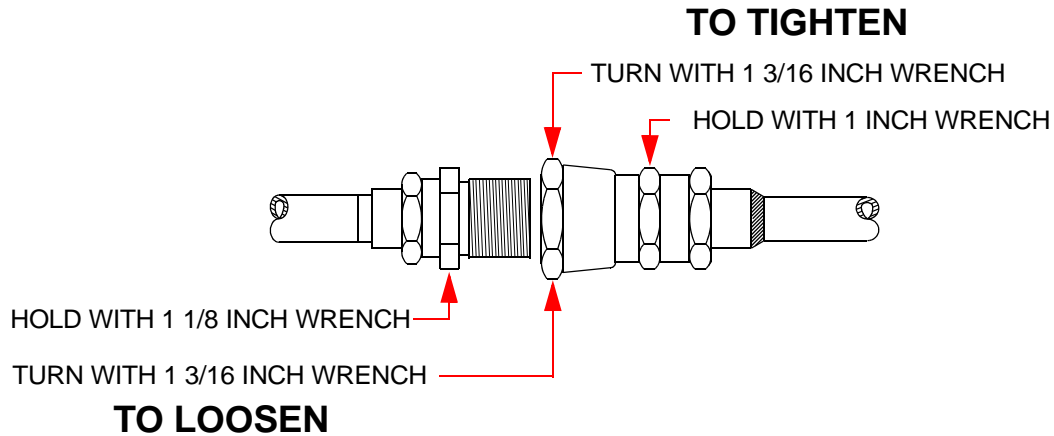

Figure 6-1: Disconnecting Self Sealing Couplings
3. Using a 1-3/16 in. wrench, and a 1-1/8 in. wrench, as shown in Figure 6-1 on page 6-3, disconnect the two self sealing coupling connectors quickly to minimize helium leakage.
- Using two wrenches as shown in Figure 6-1, connect the two self sealing couplings quickly to minimize helium leakage.
<p>2c. EMO remote jumper plug is not properly installed.</p>	<p>2c. Check that the EMO remote jumper plug is fully seated. See Figure 6-1 on page 6-3 for location. Refer to EMO Remote Operation and EMO Box Installation on page 4-9 for more information. Reset the CB1 circuit breaker.</p>